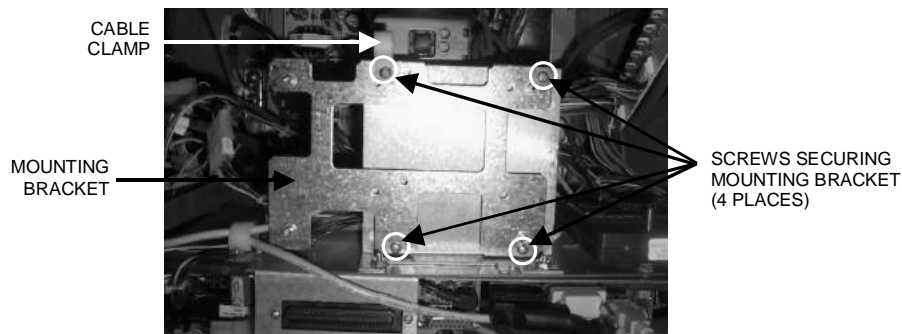

FIGURE 3 - NEW I/O MOUNTING BRACKET IN CLASSIC GAME
6. Install the provided metal mounting bracket in the game where the original I/O board was mounted and secure it using the 4 screws removed in step 5 (one screw will now secure a provided cable clamp as well). See Figure 3.